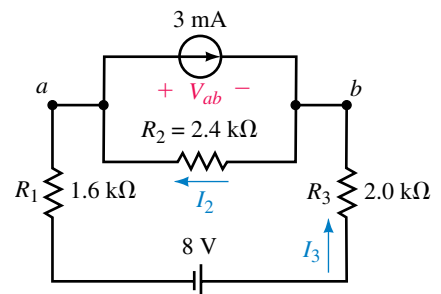

FIGURE 8–78
17. For the circuit of Figure 8–78 convert the current source and the $2.4\text{-k}\Omega$ resistor into a voltage source and find the voltage V_{ab} and the current I_3 .